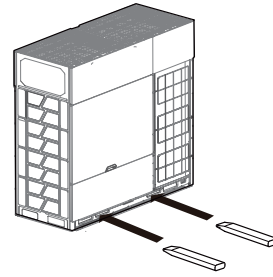

Figure 2.3
- To move the unit with a forklift, insert the forks into the opening at the bottom of the unit, as shown in Figure 2.3.